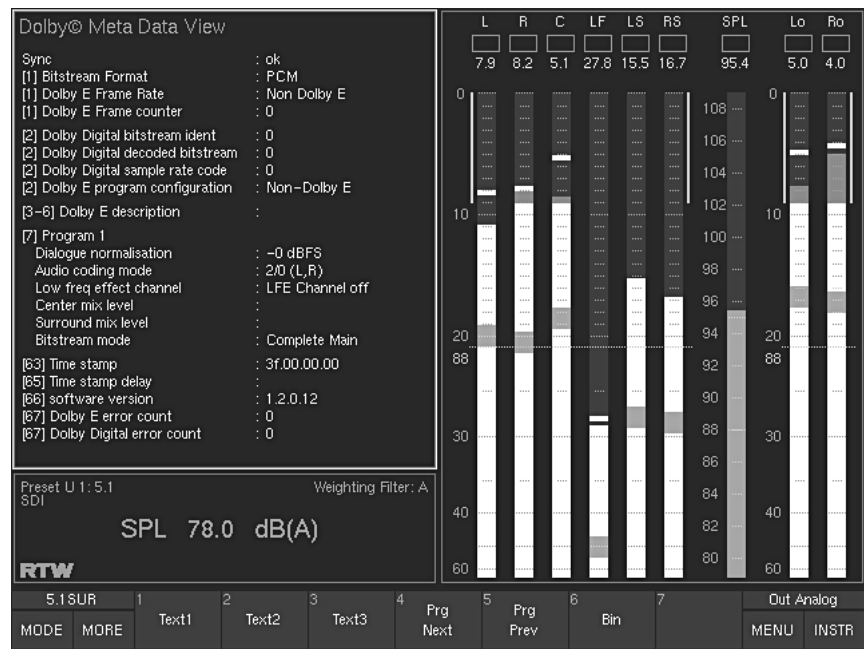

Fig. 5-51: The functions of the DOLBY® META DATA instrument displayed in the Toolbar
(Button/key 1, see Fig. 5-51)
(Button/key 2, see Fig. 5-51)
(Button/key 3, see Fig. 5-51)
(Button/key 4, see Fig. 5-51)
(Button/key 5, see Fig. 5-51)
(Button/key 6, see Fig. 5-51)